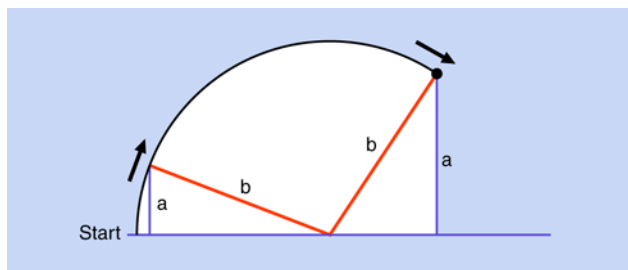
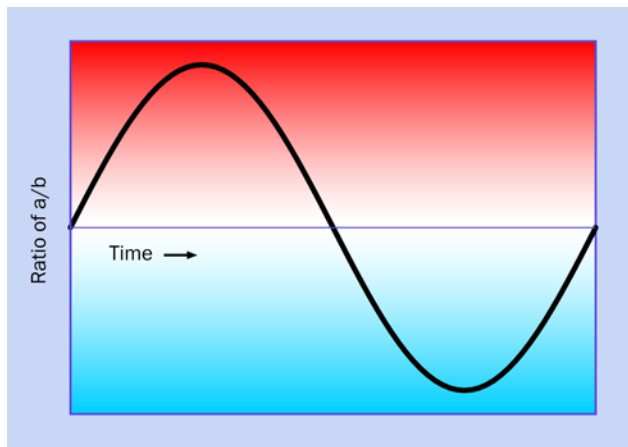

Figure 5-48 You can draw a sine wave by beginning with simple geometry.
Figure 5-49 An audio sine wave is generated by any instrument that uses a vibrating column of air—such as a flute. It is a gentle, harmonious sound.
To make this simpler, imagine a ball on a string rotating around a center point, as shown in *Figure 5-48*. Ignore the force of gravity, the resistance of air, and other annoying variables. Just measure the vertical height of the ball and divide it by the length of the string, at regular instants of time, as the ball moves around the circular path at a constant speed. Plot the result as a graph, and there's your sine wave, shown in *Figure 5-49*. Note that when the ball circles below its horizontal starting line, we consider its distance negative, so the sine wave becomes negative, too.
- We can represent the higher and lower waves of pressure by voltages that are relatively high and relatively low, which is why I used the red and blue background in **Figure 5-49**.